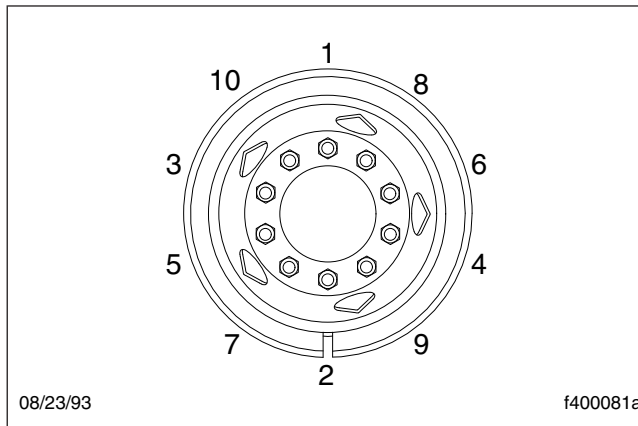
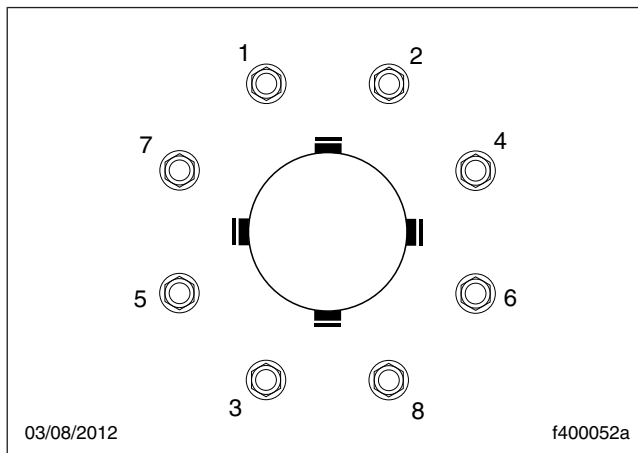

Fig. 21.4, Tightening Pattern, 10-Hole Wheels
Fig. 21.5, Tightening Pattern, 8-Hole Wheels
- 4.3 Make sure all wheel nuts are tightened. If tightening is necessary, use the tightening pattern in **Fig. 21.4** or **Fig. 21.5**.